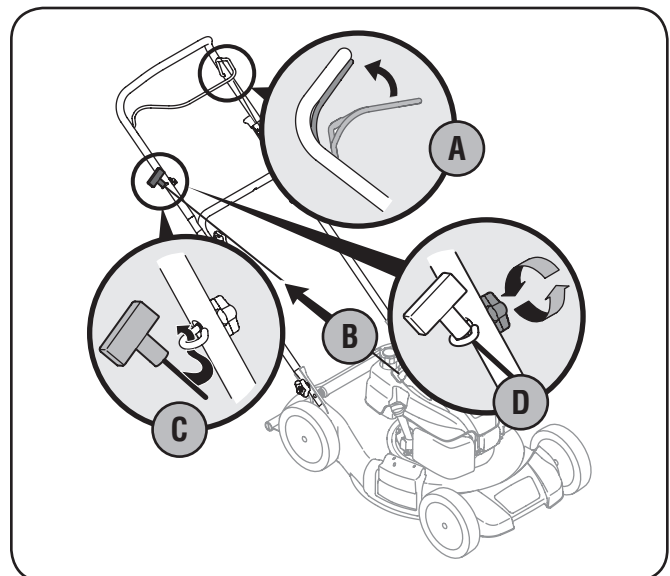

Figure 3-3
3. The rope guide is attached to the right side of the upper handle. Loosen the wing nut which secures it to the upper handle. Refer to Fig. 3-3.